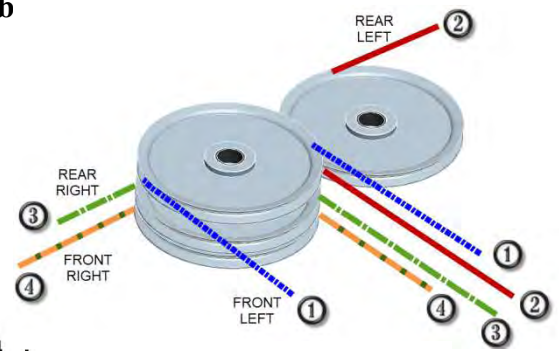

**Figure 41**
- See **Fig. 41** for position of sheave spacers.